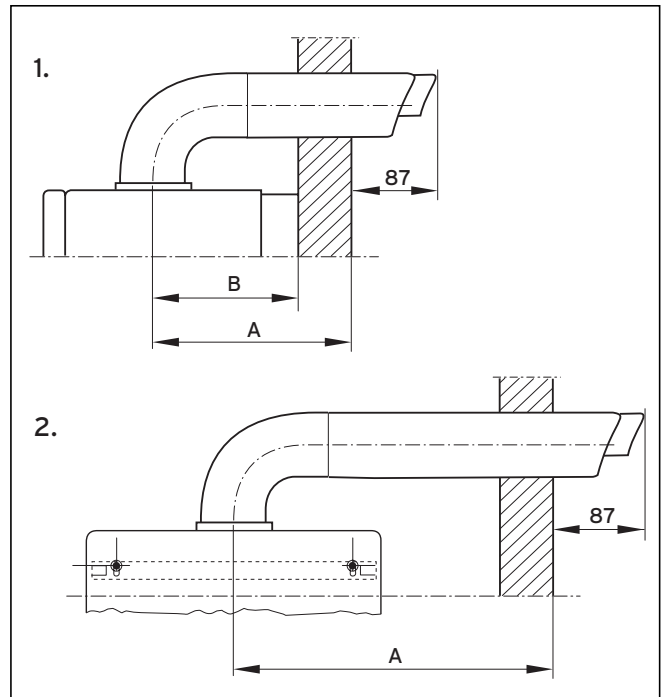

Fig. 2.14 Distance to external wall
- Measure the distance from the outside face of the wall to the centre of the fan outlet on the boiler (fig. 2.14). This is dimension A.